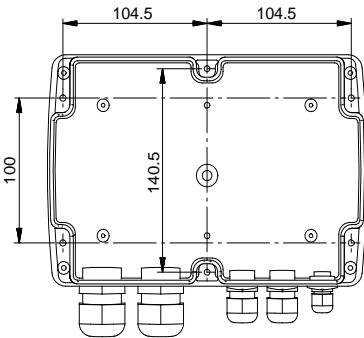

Fig. 2
The box has six mounting holes ( $\varnothing 4$ ). See fig. 2. The dimensions are in mm.
- Horizontally to allow condensed water, if any, to escape. See fig. 2.